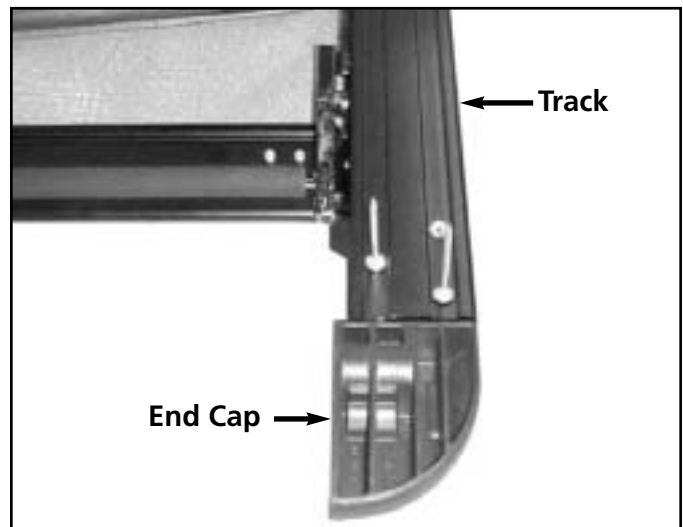

Figure S-8
9. Install the three (3) rivets retaining the end cap to the track and fasten with a rivet gun. See figure S-8.